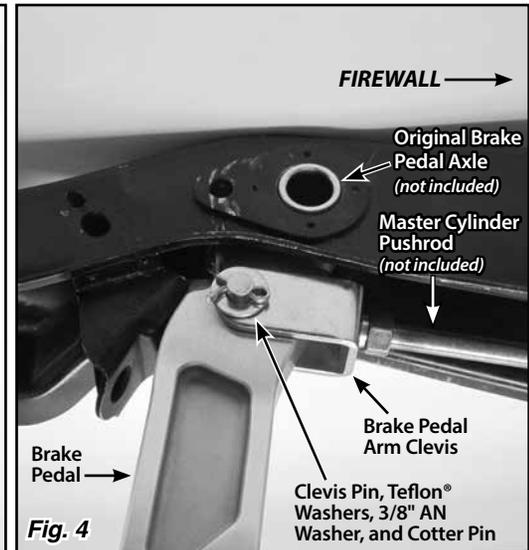

Fig. 4
**Step 7:** Raise the master cylinder pushrod with the new brake pedal arm clevis up into position on the brake pedal. Insert the Teflon® washers on both the left and right sides of the pedal, between the pedal and the clevis. Install the 3/8" clevis pin. Install the 3/8" AN washer and cotter pin on the end of the 3/8" clevis pin. Fig. 4